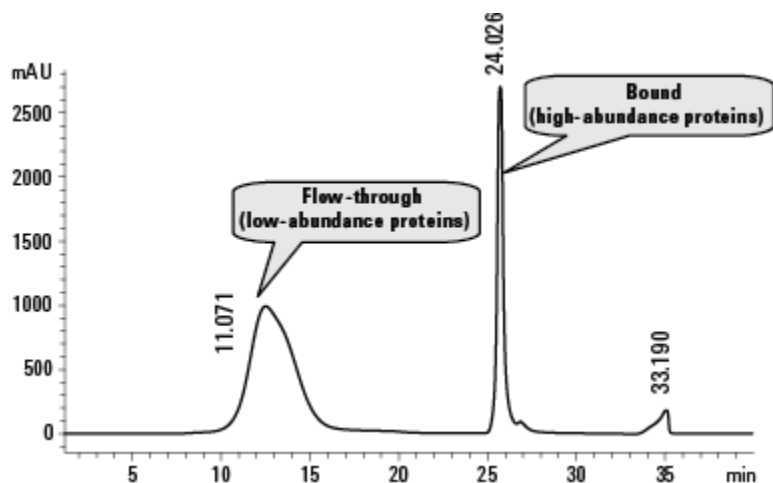

Figure 3 Representative chromatogram for 4.6×100 mm column.
- 2 Collect the flow-through fraction (like that which appears from 11 to 15 min in the typical chromatogram shown in Figure 3 on page 16). Store collected fractions at -20 °C if not analyzed immediately.